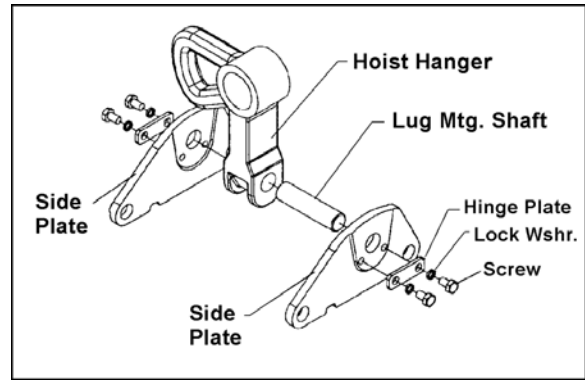

Figure 7
1. Assemble the side plates, hoist hanger and lug mounting shaft, as shown in Figure 7.